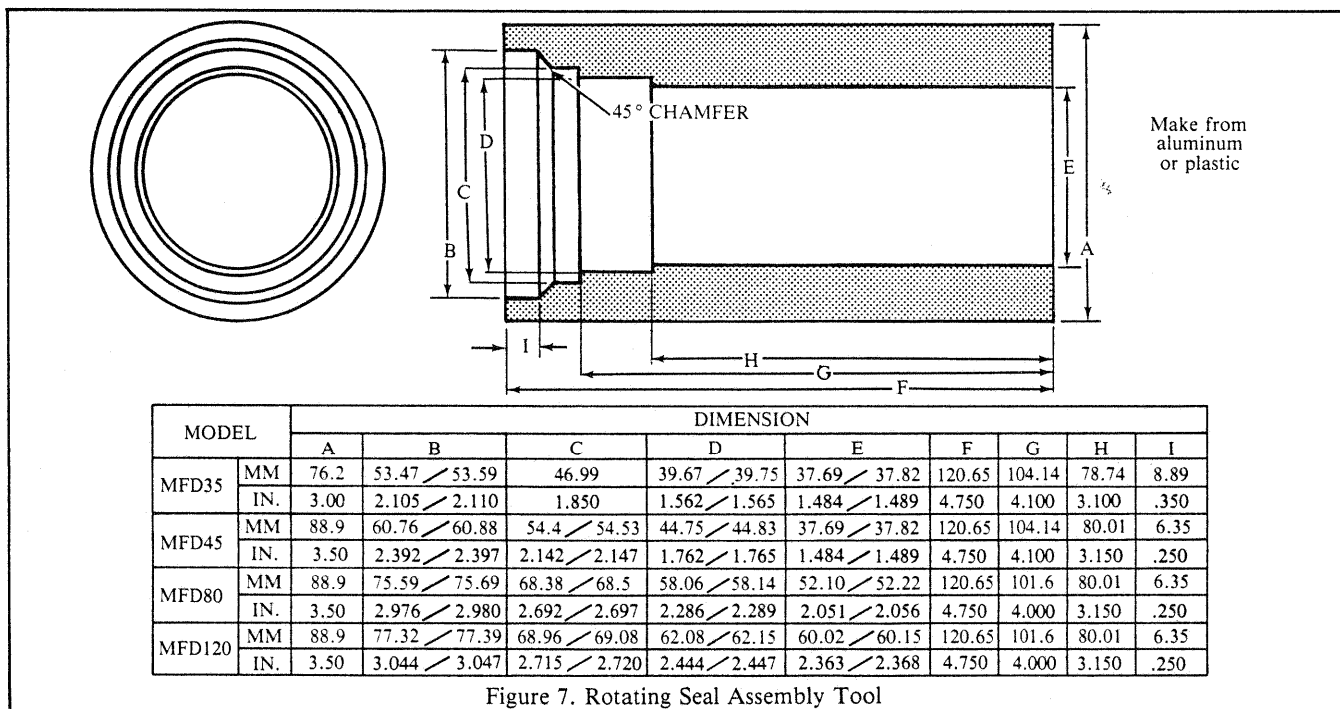

Figure 7. Rotating Seal Assembly Tool
6. Rotating seal assembly tool (Figure 7)